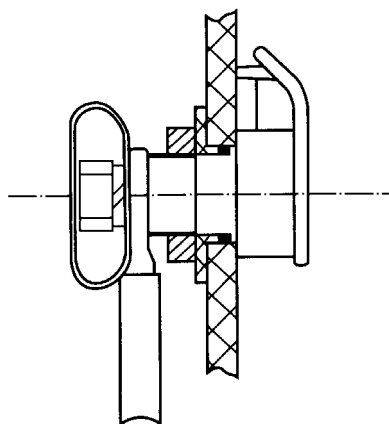

Fig.15 Sketch of connection between tap selector lead and diverter switch
- e. Fix the connecting leads with M10 hexagonal screw. Be sure to directly stick the leads level with contacts on insulation cylinder. Don't clip the screen cap between them (See Fig.15 and 16).